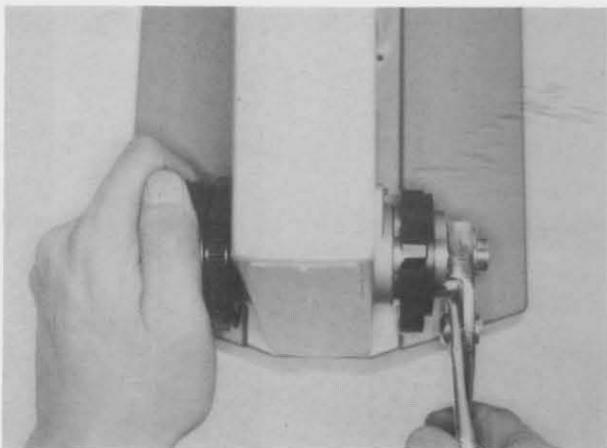

Fig. 3-20
- b) While holding the right coarse adjustment knob by hand, turn the shaft holder a little counterclockwise with pliers. After the shaft holder is loosened a little, turn the coarse adjustment knob clockwise. (See Fig. 3-20)